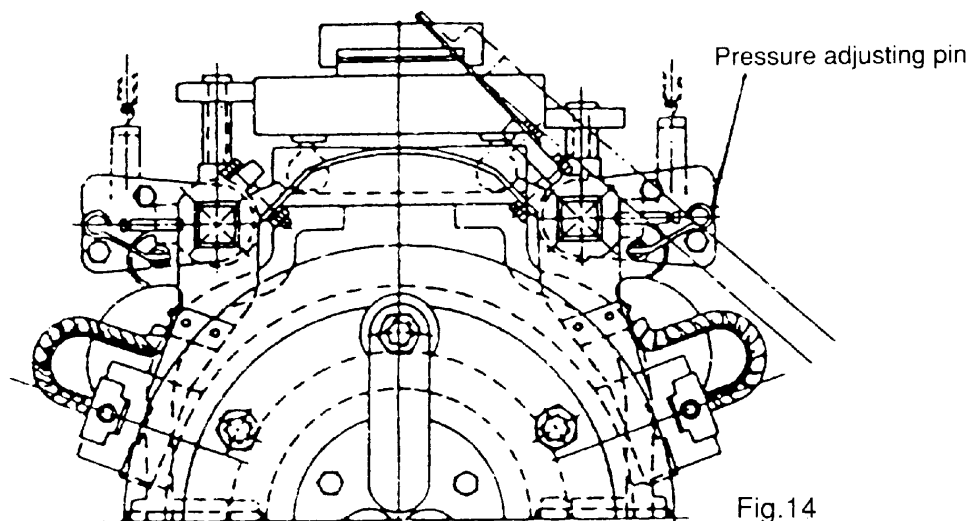

Fig.14
- The brush pressure may be reduced after use, so it is necessary to re-adjust. For adjustment, please turn adjusting screw, pressure adjusting pin or pressure adjusting plate as shown in Fig. 14 to obtain the correct tension ( $=0.23 \times \text{brush cross sectional area in cm}^2$ )  $\pm 10\%$  kg.